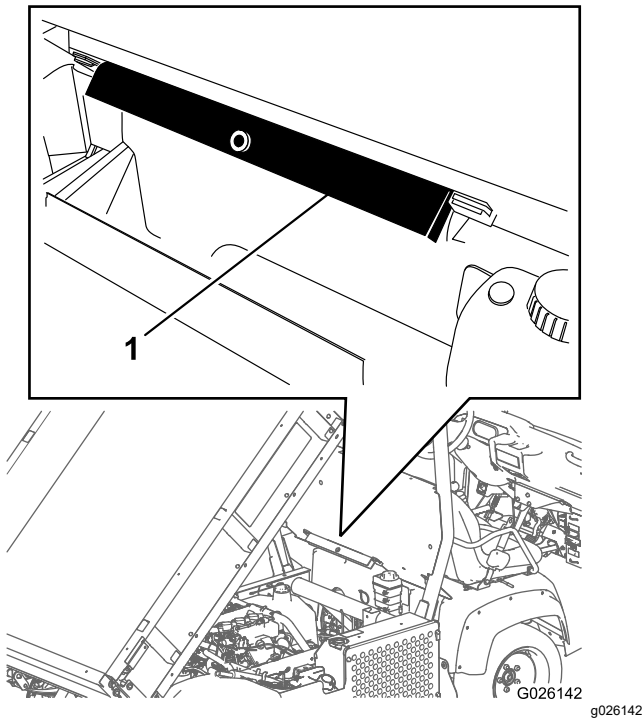

Figure 1
2. Remove the bed support from the storage brackets on the back of the ROPS panel (Figure 1).